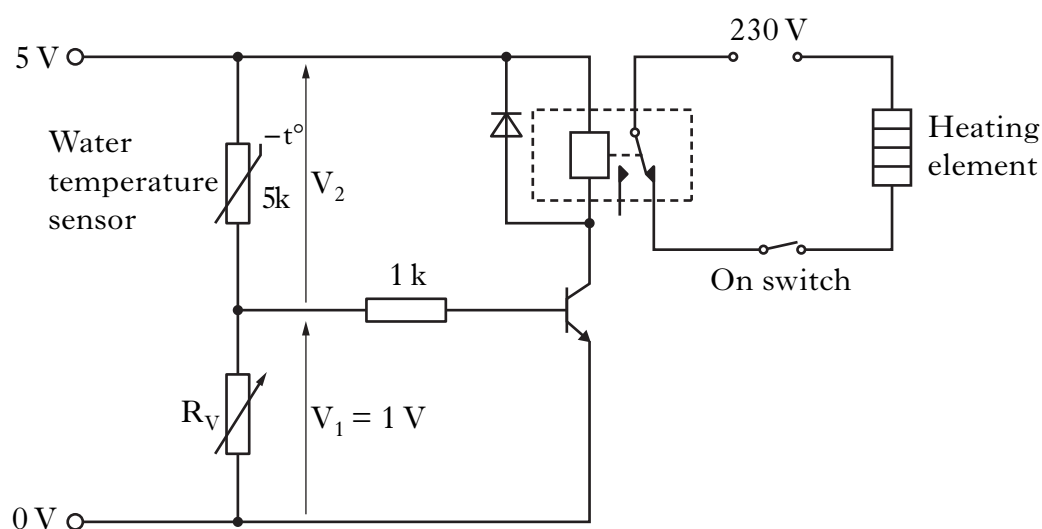

Figure Q9
9. Figure Q9 shows the circuit diagram for an automatic water heater.